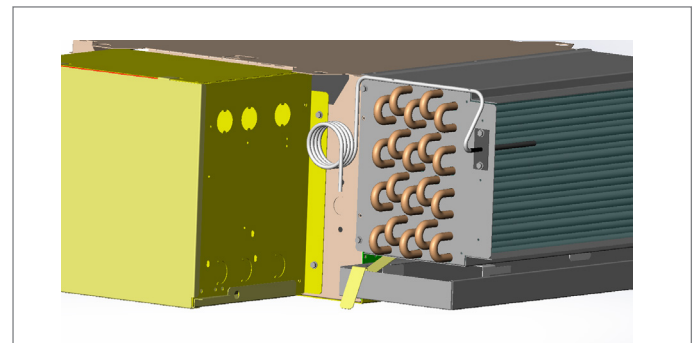

Figure 13
The Discharge Air Sensor is fitted to the side of the coil flange in the holes provided for this accessory. (See Figure 13.)
- Mount the Discharge Air Sensor with two screws as shown. (See Figure 13.)